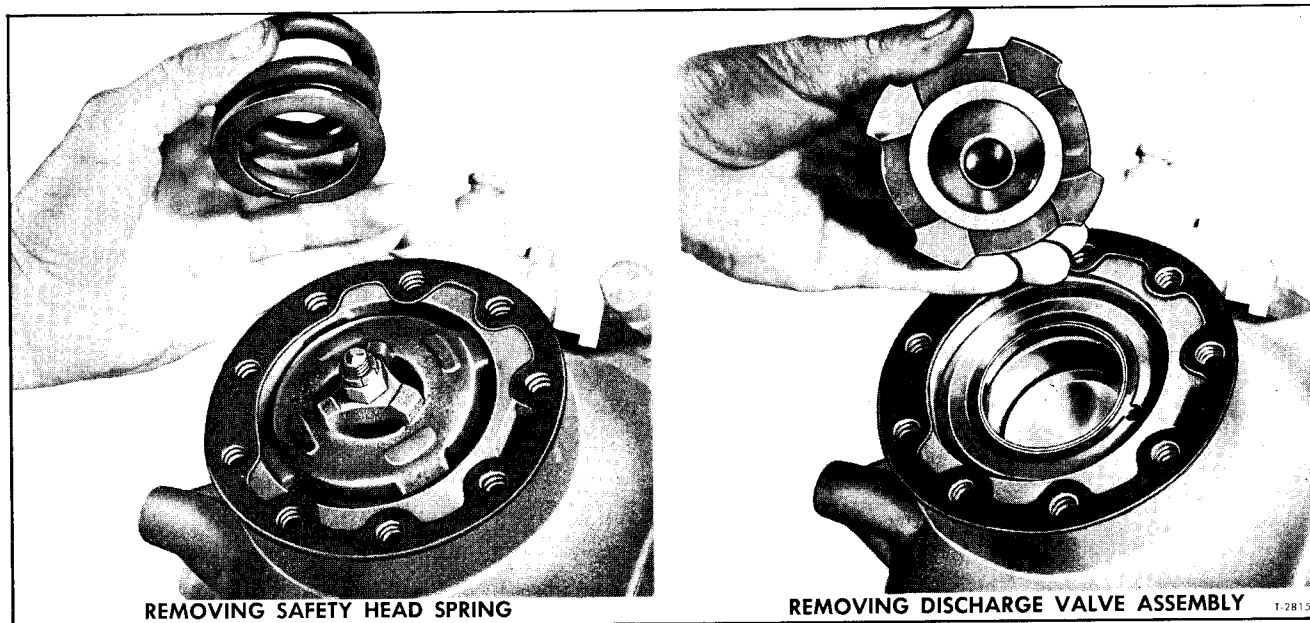

Figure 32—Removing Safety Head Spring and Discharge Valve Assembly
2. Examine cylinder head (56) to see if head is following heads of attaching bolts as shown. If not, tap the head with a plastic hammer until head gasket (55) breaks loose.
3. Slowly and alternately remove two remaining cylinder head bolts, then remove head. Lift off safety head spring (54) and remove head gasket (55) (fig. 32).
4. Lift discharge valve assembly from compressor (fig. 32).
5. Remove lock nut (53) from discharge valve bolt (48). Remove bolt and valve seat (49). Separate discharge valve ring (50) and six springs (51) from discharge valve cage (52).